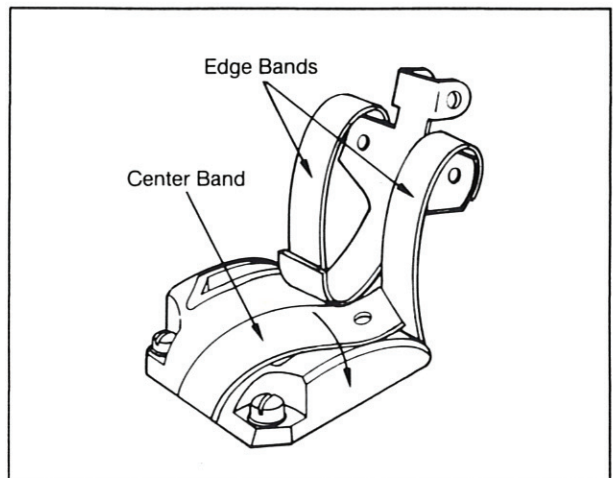

Figure 3
5. Laterally move the center band underneath the rocker spring until it is free of any restrictions (reference Figure 3).
4. Position the center band under the rocker spring by reversing the disassembly procedure (Step 5, reference Figure 3). The bias band will be inserted later in Step 6.